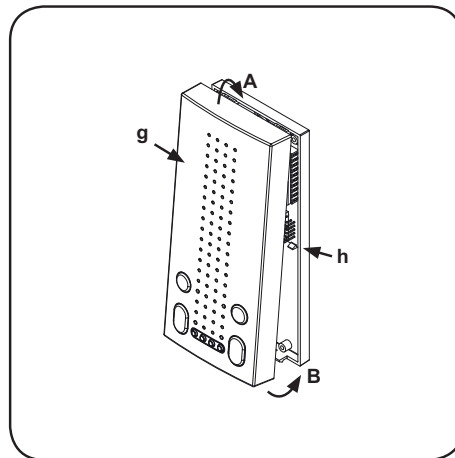

Fig.6
- Hook the top of the front plate "g" to the top of the back plate as shown by pointer "A" in Figure 6.
To open the intercom once installed, firmly grasp the bottom sides of the front plate cover, pull forward in an upward direction to separate the front cover from the back plate as in Figure 6.